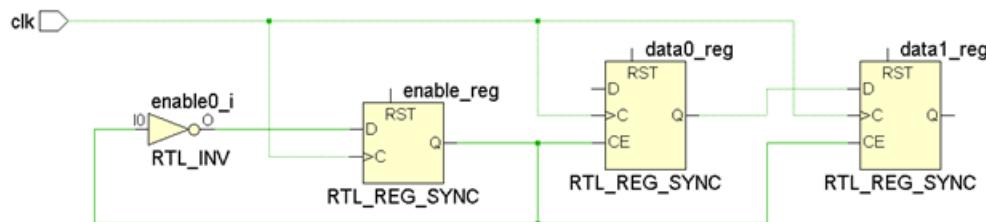

Figure 5-4: Registers Enabled Every Two Cycles
Figure 5-4, Registers Enabled Every Two Cycles, shows a path between two flip-flops that are enabled every two cycles. It is safe to define a Multicycle Path constraint on this path to indicate that: (1) the first edge of the destination clock is not active; and (2) only the second edge of the destination clock will capture a new data.
In the same example as Figure 5-4, after moving the setup check to the second capture edge, the hold check is automatically moved to the first capture edge (that is, one clock period before the setup check).